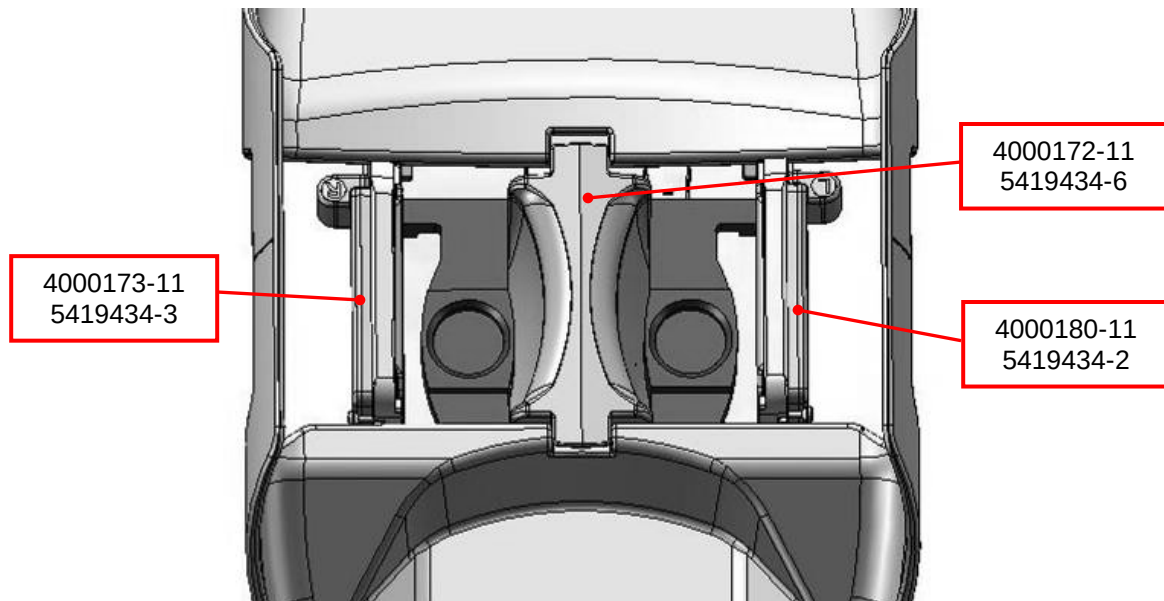

Figure 64: 4 Channel - Phantom Positioner Set-Up
3. Close the catchment tray. Move the lateral coils to their furthest outward position and slide them to their highest upward position. Locate the phantom positioners on either side of the medial coil as shown in Figure 64.